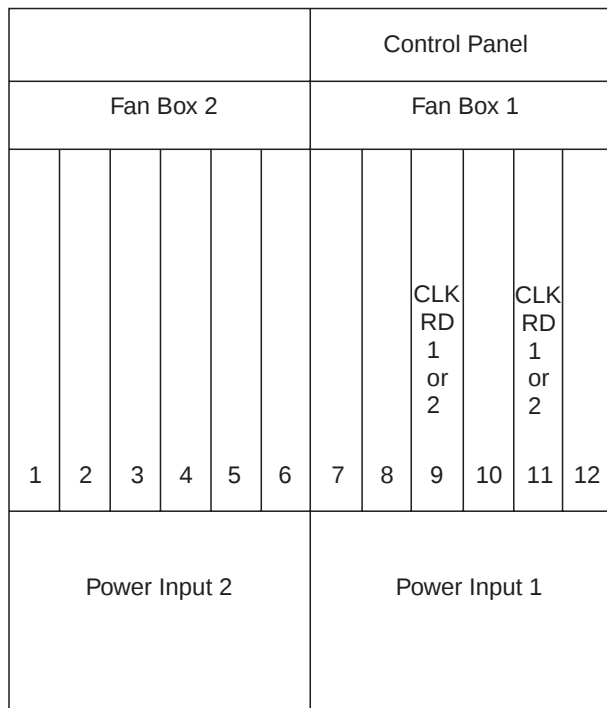

Figure 6-11. 2220 Front View
1. Locate the clock redrive module that you have to exchange, using Figure 6-11